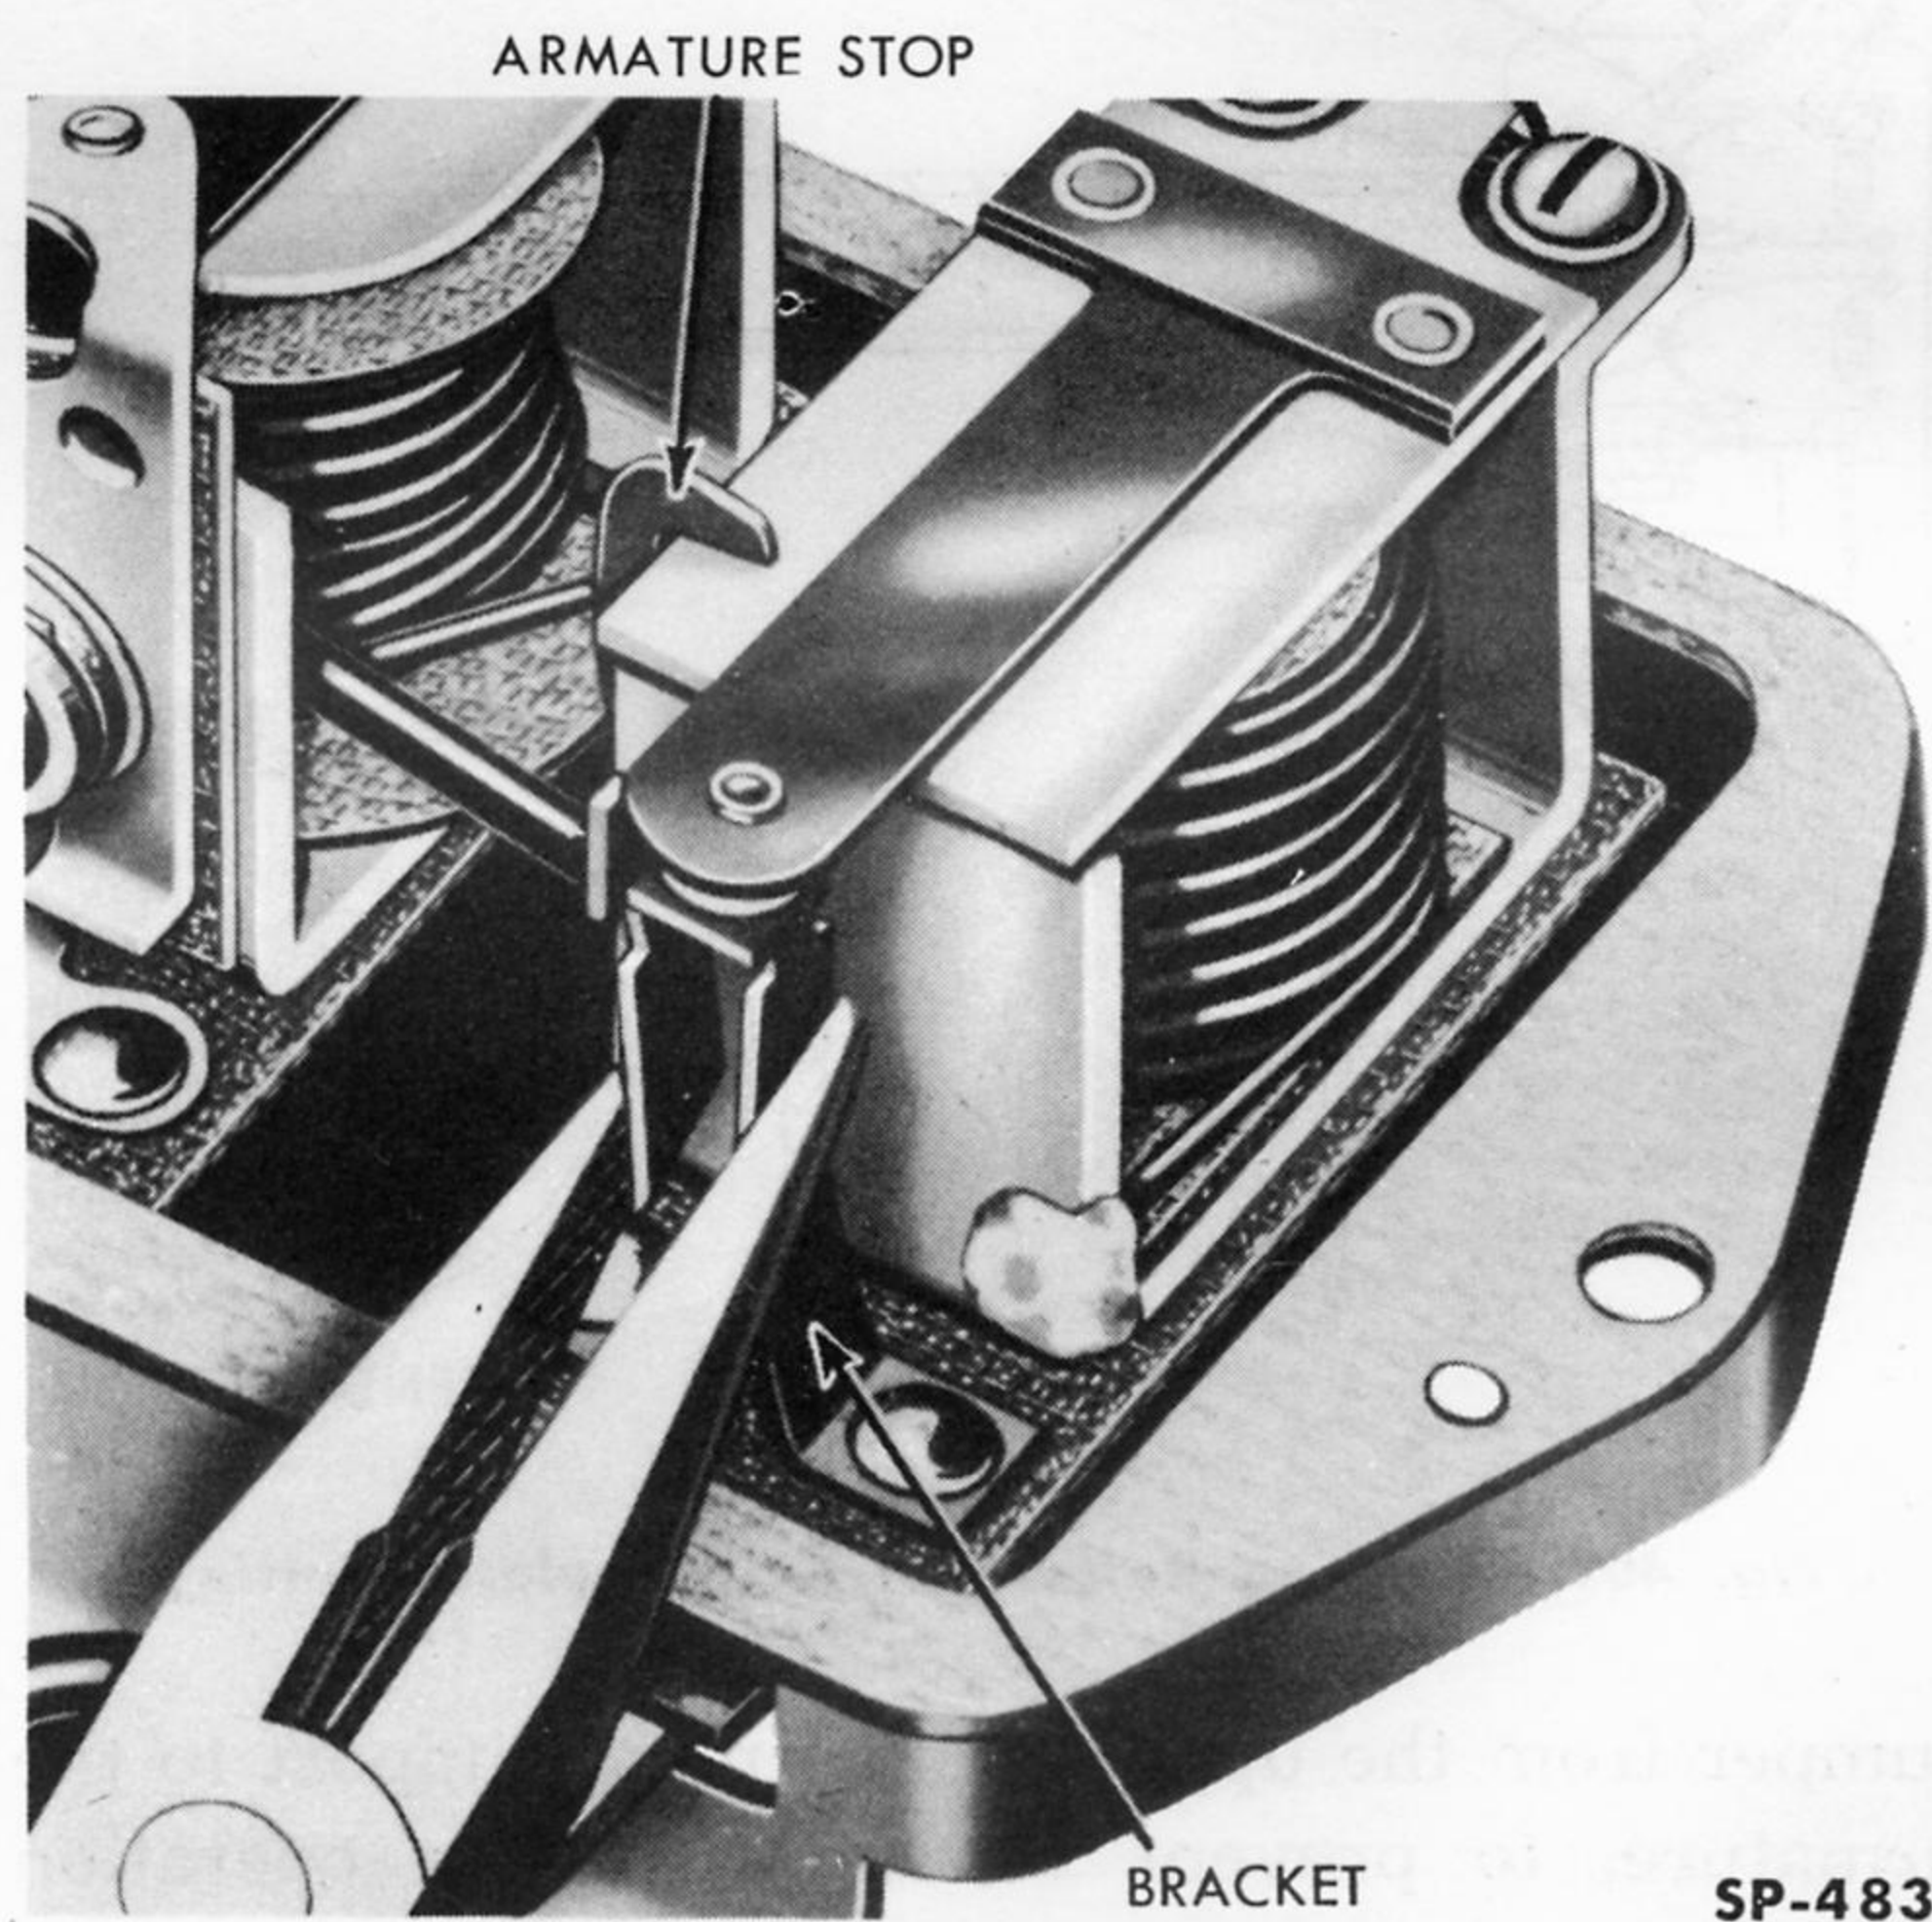

Fig. 412—Adjusting Frazer Circuit Breaker Contact Point Gap
(3) **Relay Contact Point Gap.** These contact points should be properly aligned and the gap should not be less than .015 inch. Adjust by expanding or contracting the stationery bridge, as illustrated in Fig. 412. Increasing the contact point gap lowers the opening voltage and raises the point opening reverse current. Proper opening voltage is